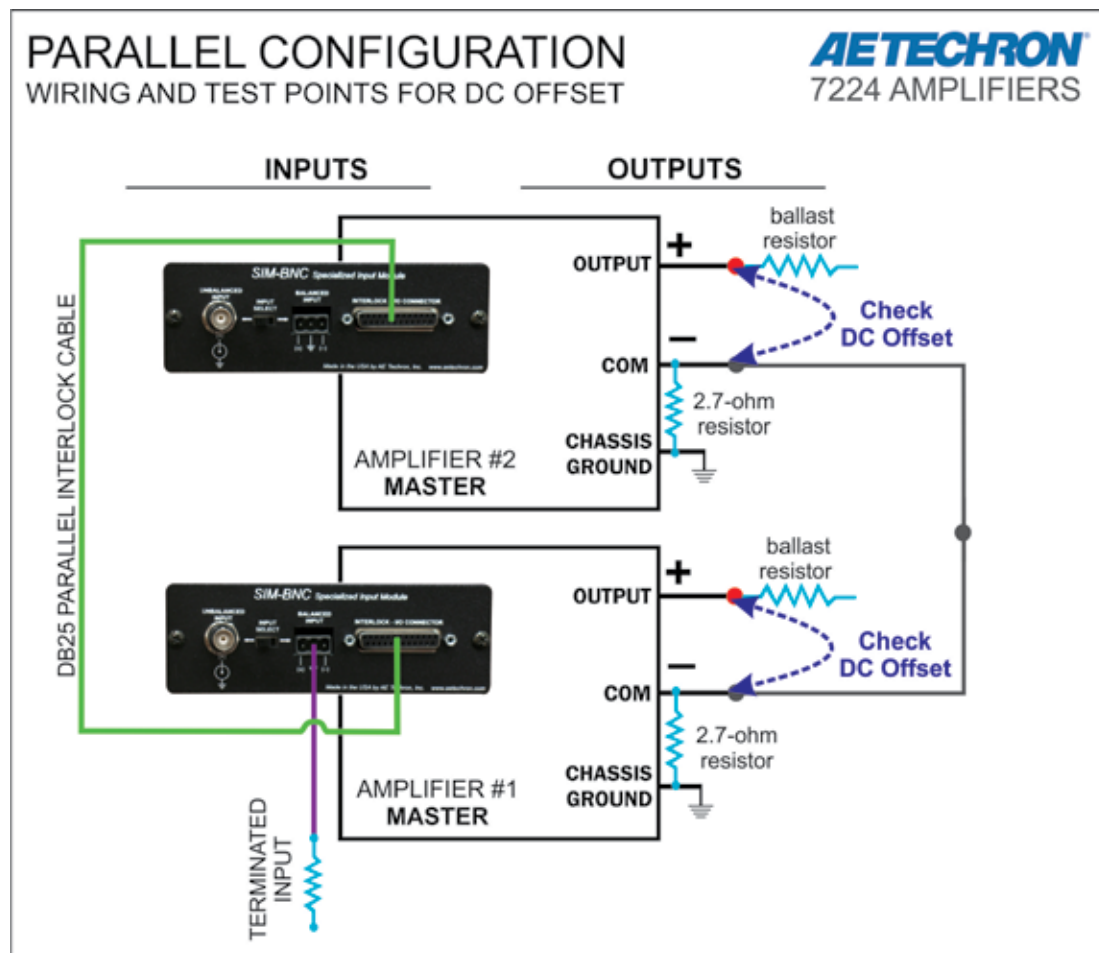

Figure B.2.21 – Wiring and Test Points for Interlock Verification and DC Offset Adjustment
- A. For each amplifier in your system, connect a leg of the black output cable found in the Parallel Wiring Kit to one of the amplifier’s output connectors labeled COM on the amplifier back panel. Important: Do not connect this cable to the LOAD and do not connect the red cable at this time. See **Figure B.2.21**.
- B. Starting with either end of the DB-25 Parallel Interlock cable found in the Parallel Wiring Kit, connect the DB-25 connector to the INTERLOCK – I/O CONNECTOR on the SIM-BNC input card of the first amplifier in your system. Connect additional connectors on the DB-25 cable to the INTERLOCK – I/O CONNECTOR on the SIM-BNC input card of additional amplifiers in your system. See **Figure B.2.21**.
- Using a digital voltmeter set to DC, measure across the amplifier's back-panel output connector terminals (OUTPUT to COM) to verify that the DC offset of each amplifier is less than 5 mVdc. See **Figure B.2.21**.